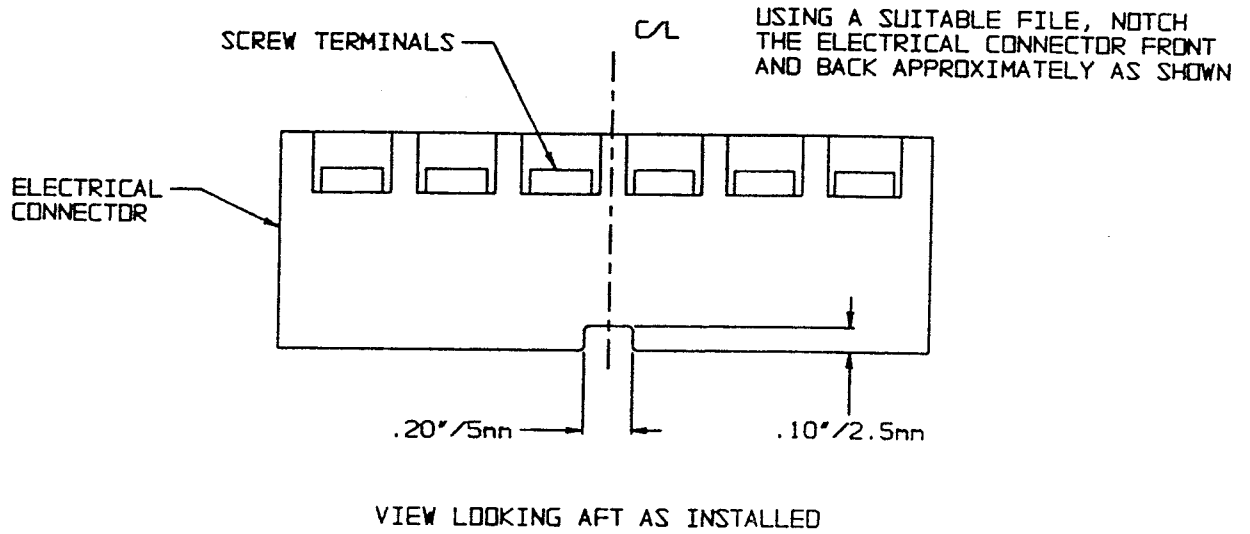

FIGURE 1
4. Using a suitable file, modify the electrical connector as shown in Figure 1.